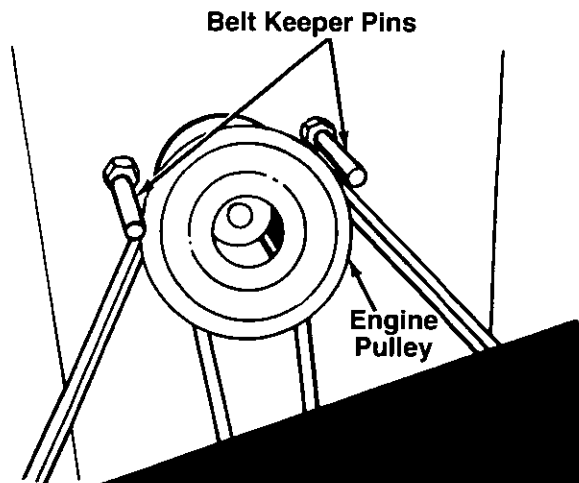

FIGURE 20.—Model LT-135
NOTE: Figures 20 and 23 are shown with the unit tipped up for clarity. It is not necessary to tip the unit to remove the belts.
- 2A. **Model LT-135:** Remove the belt keeper pins from the engine pulley belt guard. See figure 20.
NOTE: When reassembling, make certain belt keeper pins are assembled in the same locations from which they were removed. See figure 20.
8. Remove the four self-tapping screws which hold the belt keeper assembly to the frame at the engine pulley. **Model LT-135:** Remove the belt keeper assembly. **Model LT-165:** Push the belt keeper assembly forward, out of the way. See figure 20.